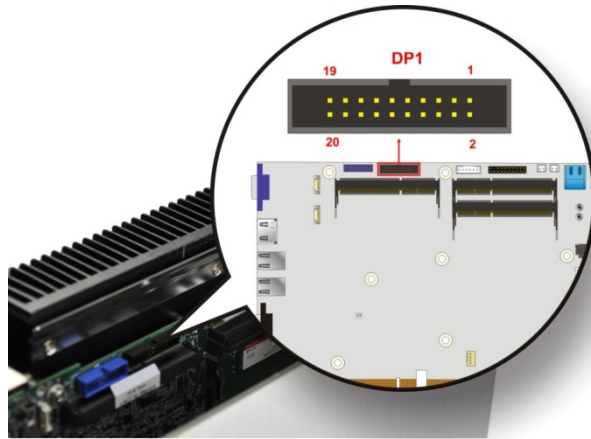

Figure 3-29: Internal DisplayPort Connector Location
Step 2: Locate the internal DisplayPort connector. The location of the internal DisplayPort connector is shown in **Figure 3-29**.